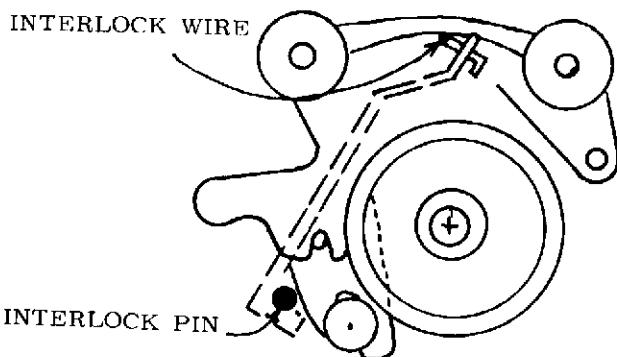

Figure 3-40. SOLENOID INTERLOCK
a. When located correctly, this solenoid will depress feed clutch interlock and also the lens mount interlock. In rewind operation, a 1/8" diameter pin (Fig. 3-40) behind the front lobster claw (front idler bracket) will pop out and the control lever is locked down and the lens mount open.